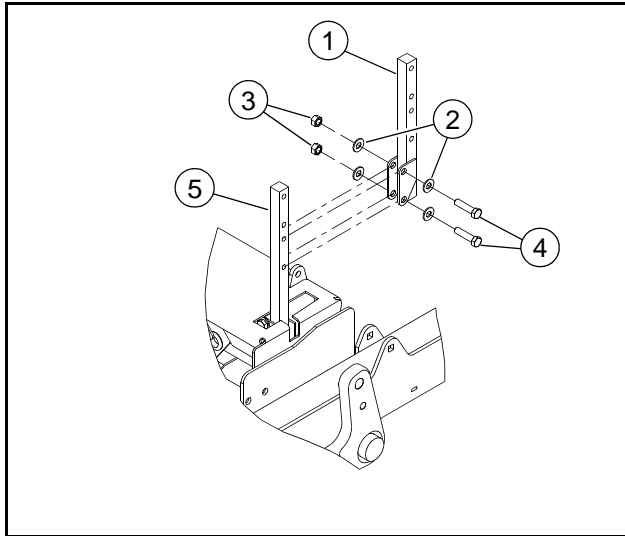

FIG. 1
3. Align the holes on the steering arm extension to either the top set of holes for maximum height or the bottom set of holes on the lower steering control lever. Attach the steering arm extension using the new hardware and tighten. FIG. 1